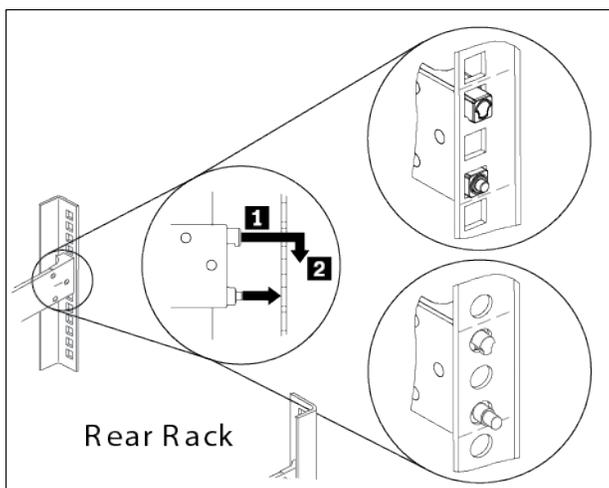

Figure 2: Install the Rear End of the Slide Rails
- 2 Install the rear end of the slide rails, as shown in Figure 2: Install the Rear End of the Slide Rails on page 8.